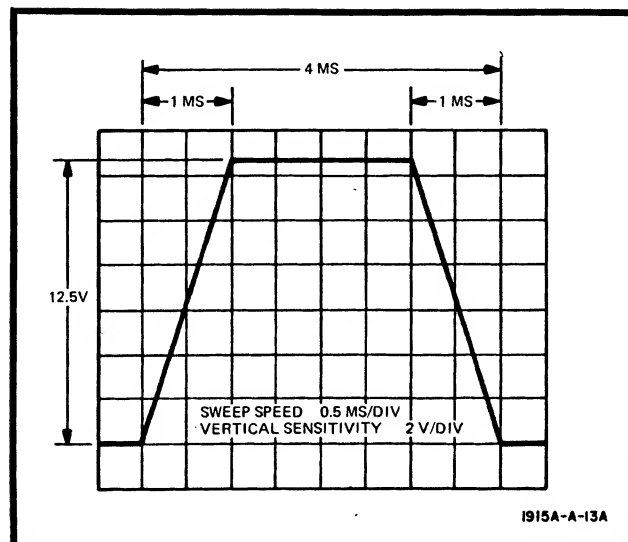

Figure 5-18. Positive Overload Setup Pulse
- Set Model 1915A WIDTH vernier, LEADING EDGE and TRAILING EDGE controls to obtain the display shown in Figure 5-18.